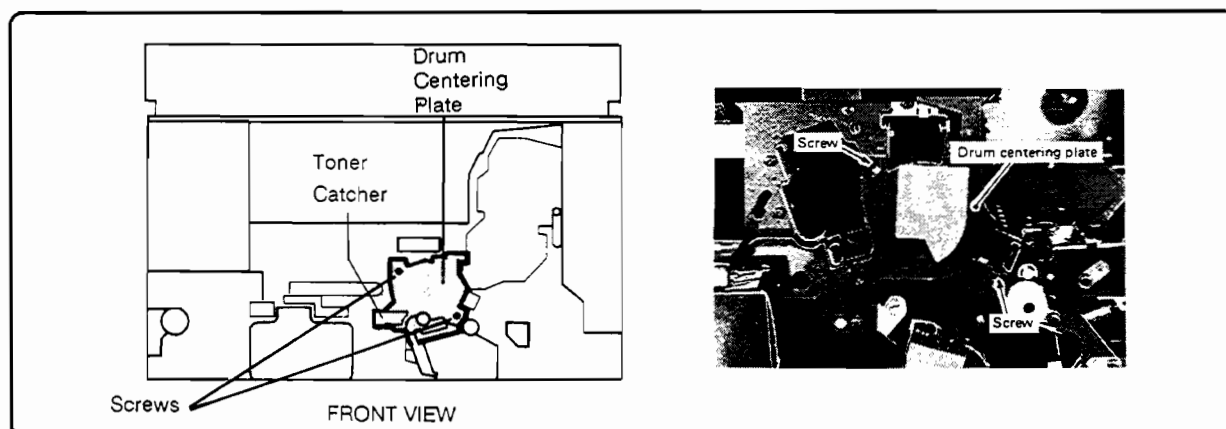

Figure 6-50. Drum Centering Plate
7. Remove the two screws and detach the drum centering plate (Figure 6-50).